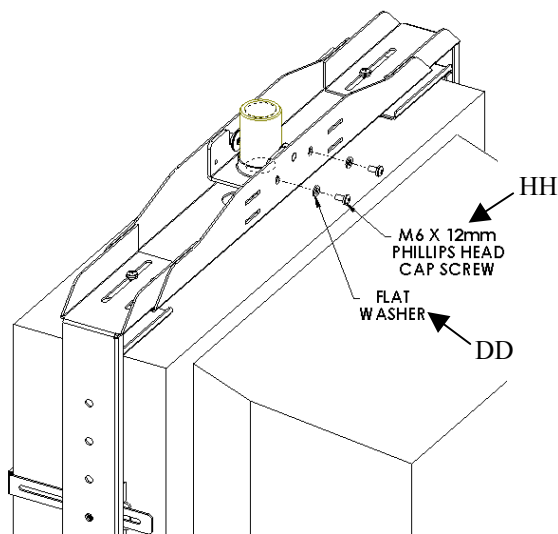

Figure 20. Adjust Roll Movement and Secure CTV Mount
3. Making sure the mounting buttons (60) are directly above the slots of the quick-connect bracket (150), gently lower CTV mount until mounting buttons (60) are fully engaged with the quick-connect bracket (150) slots. See Figure 20.
4. Allow CTV mount to naturally level itself. Secure roll adjustment by firmly installing two M6 X 12mm Phillips head cap screws (HH) and flat washers (DD). See Figure 20.
5. Adjust pitch by loosening two M6 X 12mm cap screws (HH) on the side mount. (Refer to step 4 on page 12). Set desired pitch and re-tightened screws.